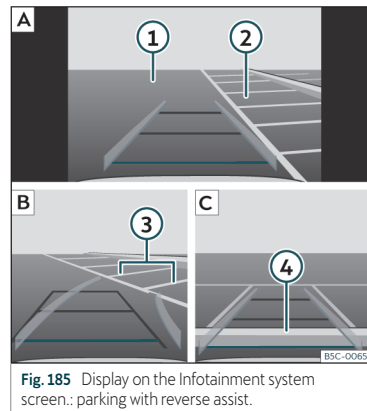

Fig. 185 Display on the Infotainment system screen.: parking with reverse assist.
Key to the **Fig. 185**:
- Place the vehicle in front of the parking space >>> **Fig. 185 ② [A]**.
- Reverse while turning the steering wheel so that the yellow lines enter the parking space. The green and yellow lines must match the side boundary lines **③ [B]**.
- Stop the vehicle when the red line has reached the rear boundary **④ [C]**.